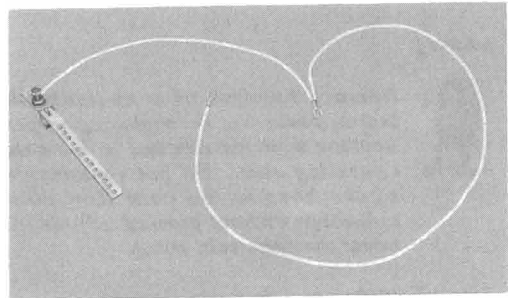

Fig. 15—P-12C414 Ground Wire Assembly
- A 14-gauge insulated ground wire (P-12C414 ground wire assembly) is provided. (Fig. 15)